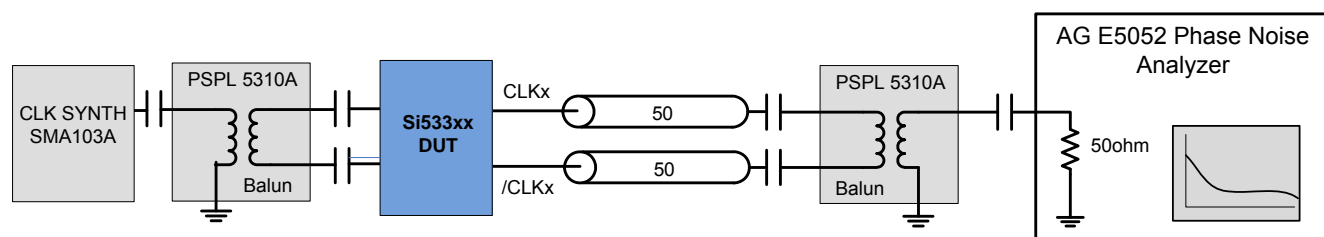

Figure 1. Differential Measurement Method Using a Balun
3. Measured differentially using a balun at the phase noise analyzer input. See Figure 1.
- Measured differentially using a balun at the phase noise analyzer input. See Figure 1.